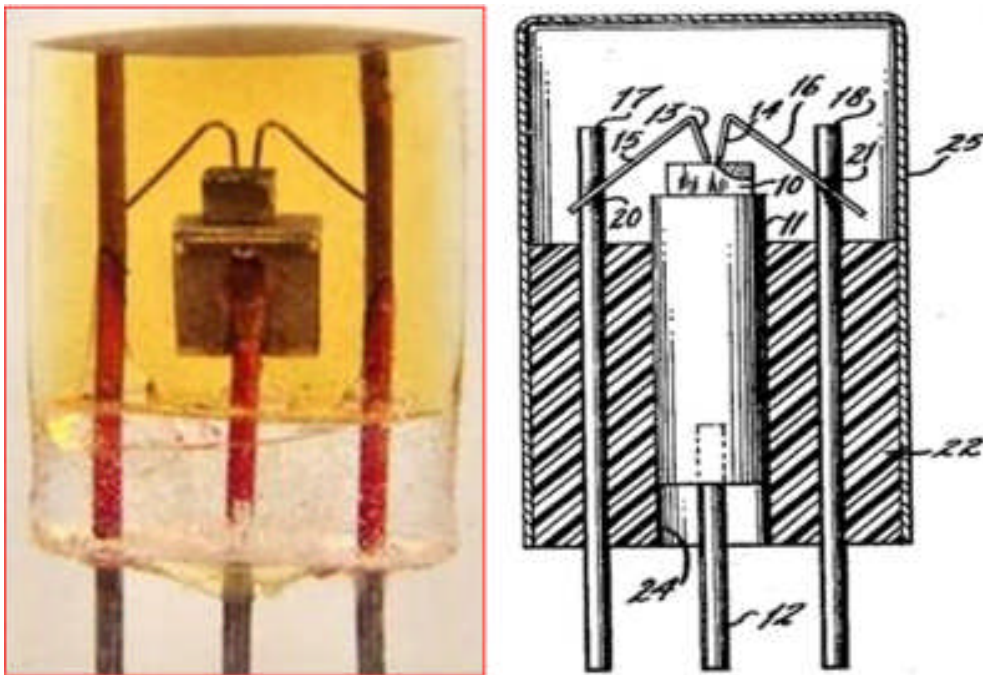

Figure 1 - First Plastic Package [ref. 2]
But the solid-state break-through over 50-years ago would change electronics, packaging and the world forever. The invention of the transistor, followed by the development of interconnection methods for building integrated circuits (IC), was disruptive technology at its best. The IC produced a massive paradigm shift in the electronics industry, especially packaging. Not only was the IC orders of magnitude smaller and denser, it did not require a vacuum. This meant that the full-hermetic package could be discarded for more cost-effective alternatives, like plastics. The plastic package was introduced just prior to 1950 (see Figure 1).